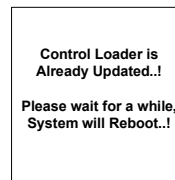

Figure 1-5 Control boot loader upgraded screen
11. LCD should display the message as shown in Figure 1-5 on page 1–6, if control processor boot loader is already upgraded.